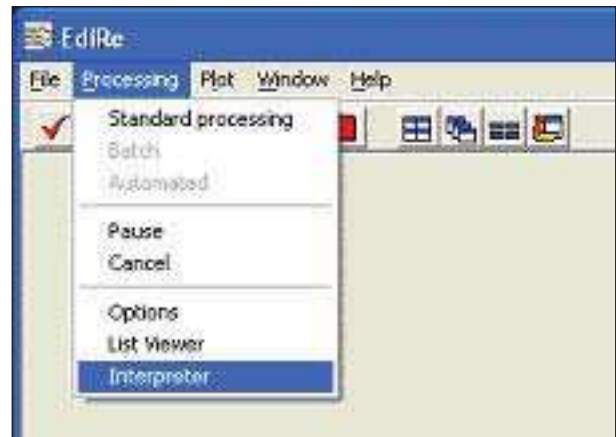

Figure 1: Select Interpreter from the Processing menu.
1. Open EdiRe, and go to Processing → Interpreter (see Figure 1).